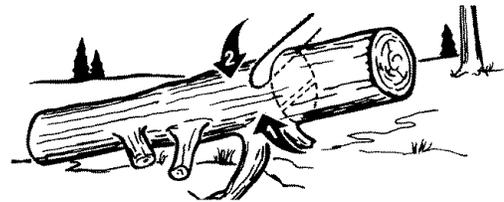

Fig. 14
2. Log supported on one (1) end: First, cut from bottom (underbuck) 1/3 diameter of log to avoid splintering. Second, cut from above (overbuck) to meet first cut and avoid pinching (Fig. 14).